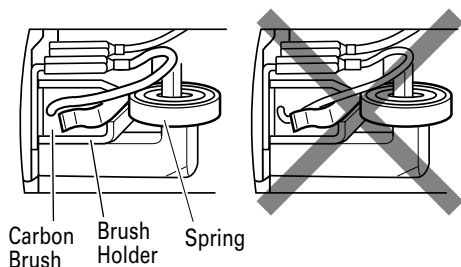

Fig. 8
4. Replacing carbon brushes (Fig. 8):